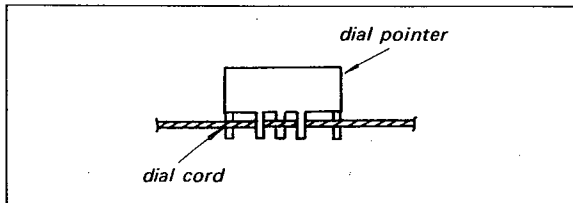
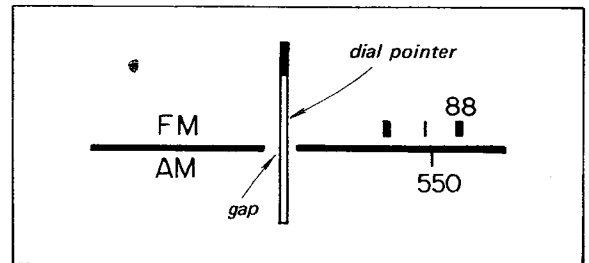

Fig. 2-10. Dial pointer installation
Fig. 2-11. Mechanical dial calibration
1. Put the dial pointer on the cord as shown in Fig. 2-10 and move it to a position where the pointer coincides with the left gap on the dial scale as shown in Fig. 2-11, when the tuning capacitor is set to the maximum capacitance.